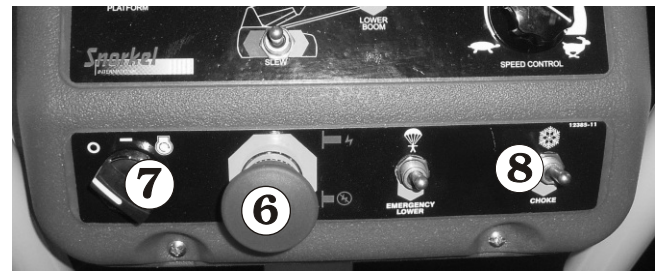

Figure 10.13
5. Set the **Emergency Stop** switch **6** to (ON) (see Figure 10.13).
6. Turn the **Anti-Restart** switch **7** to ON (see Figure 10.13).
7. If the engine is at ambient temperature (cold), hold the **Choke Switch** **8** (see Figure 10.13) up throughout the next step.
8. Turn the **Anti-Restart** switch **7** to START and hold it there until the engine starts or for a maximum time of 6 seconds. When the engine starts, release the key (6) and the choke switch **8**, if you used it (see Figure 10.13).